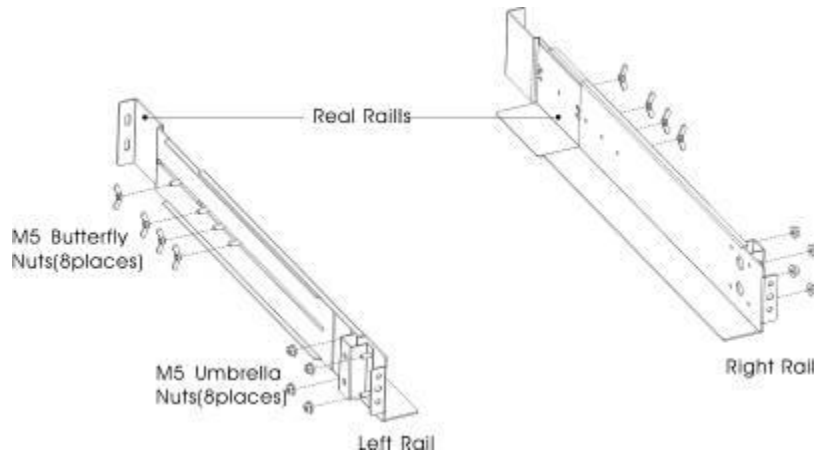

Figure1 Securing the Rails
- *If installing optional EBP(S), make sure to install the EBP(S) directly below the UPS so that all wiring between the cabinets is installed behind the front covers and inaccessible to users.*
(1) To install the rail kit
- a) Assemble the left and right rails to the rear rails as shown in Figure 1. Do not tighten the screws.
- c) Tighten four M5 Umbrella Nuts in the side of rail assembly(see Figure 1).